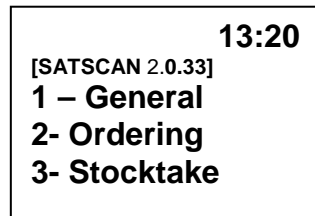

Figure 3: Fred Satscan Main Menu
- Press **Enter** to continue, the **main menu** will be displayed, refer to Figure 3